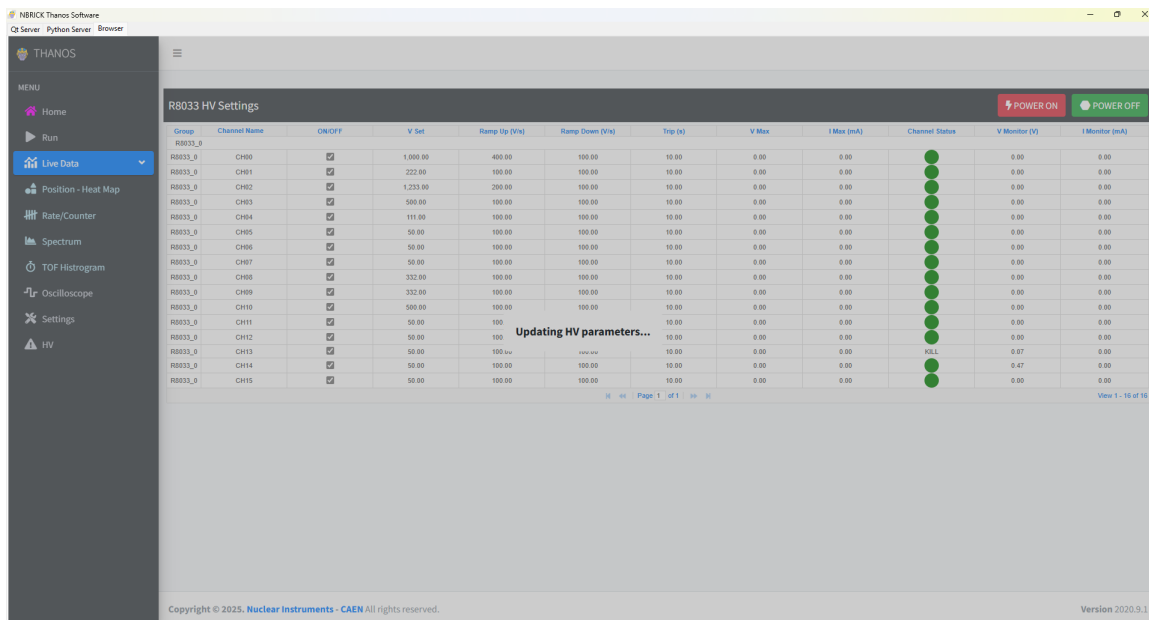

Fig. 4.76: Thanos updating HV parameters.
**Note:** Users should be aware that commands sent to the HV board may not be received immediately. During the update of HV settings, a status screen is displayed (Fig. 4.76) indicating that the settings are being applied. It is recommended to avoid making rapid consecutive changes to the HV parameters, allowing sufficient time for the board to properly receive and process each command.